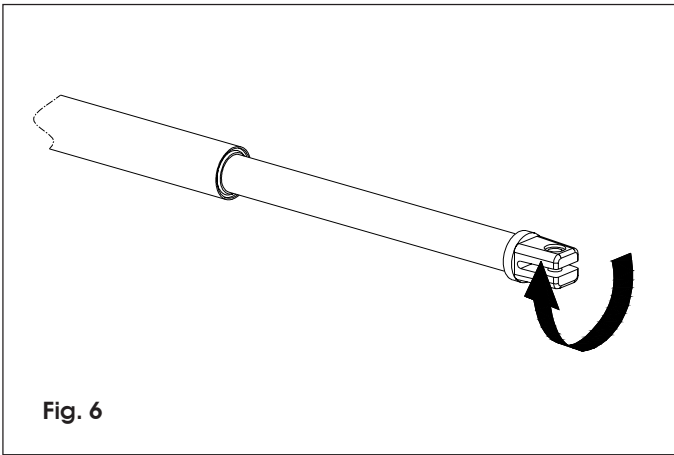

Fig. 6
- 3) Completely withdraw the stem up to its stop (Fig. 6).
4) Rotate the operator stem half/one turn clockwise (fig. 6)